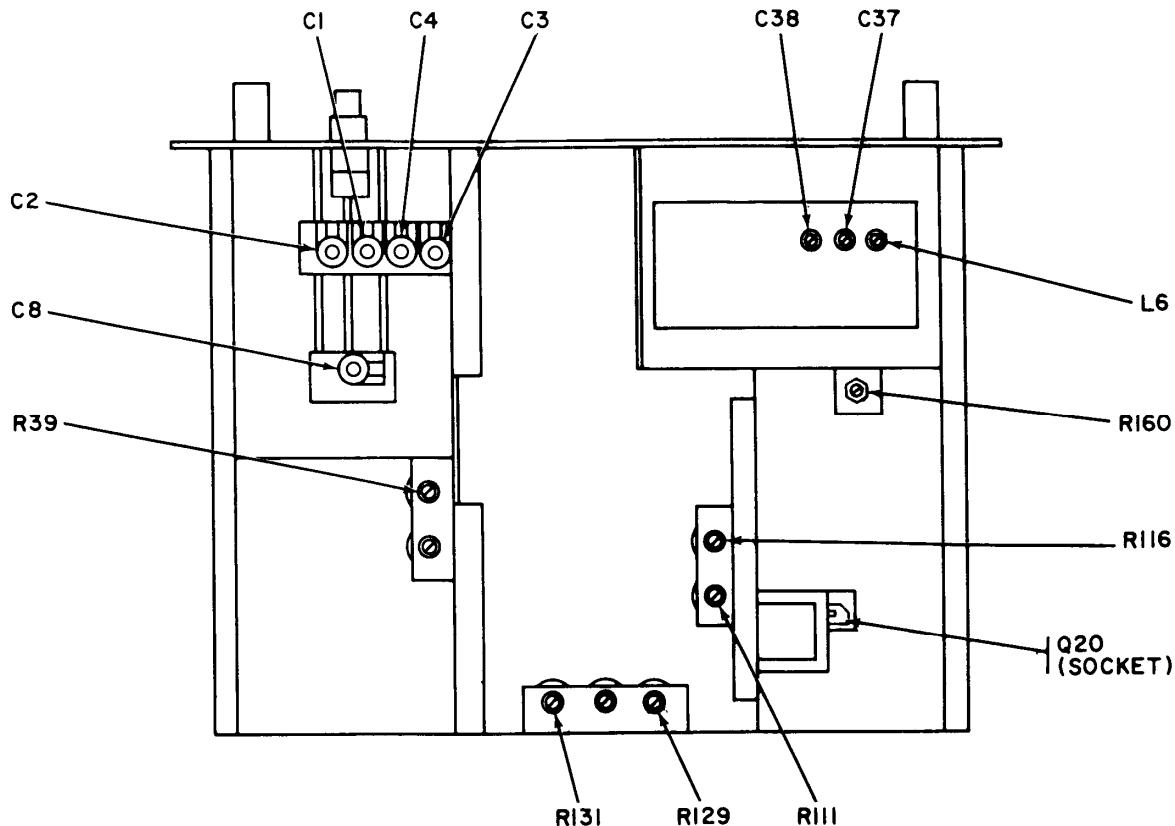
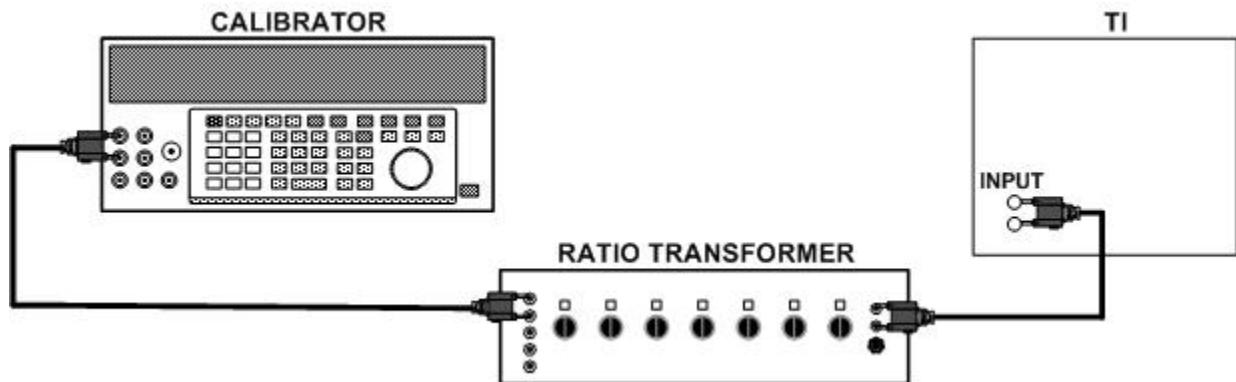

Figure 1. Wave analyzer - adjustment locations.
Figure 2. Calibrator and voltage accuracy - equipment setup.
- (6) Substitute frequency counter with multimeter.
- (7) Vary **FREQUENCY** dial from 20 Hz to 50 kHz. If multimeter does not indicate at least 1 V, perform **b** (3) below.
b. Adjustments (fig. 2)
- (1) Adjust L6 for out-of-tolerance indications on low end of **FREQUENCY** dial (R).
- (2) Adjust C37 (fig.1) and C38 (fig. 1) for overall in-tolerance indication (R).
- (3) Adjust R116 (fig. 1) for an indication of at least 1 V rms on multimeter (R).
- (13) Connect equipment as shown in figure2.
(1) Adjust calibrator for an output of 1.0 Vac.
(2) Set **RANGE (VOLTS)** switch to **METER CAL**.
(3) Adjust **METER CAL** adjustment screw until TI **R.M.S. VOLTS** meter indicates 1.0 to 1.0 scale.
(4) Adjust **FREQUENCY** dial for maximum indication on TI **R.M.S. VOLTS** meter (approx. 4 to 5 kHz).
(5) Adjust R39 (fig. 1) until TI **R.M.S. VOLTS** meter indicates 1.0 on 0 to 1.0 scale (R).
(6) Adjust R111 (fig. 1) until oscilloscope indicates 7 V p-p (R).
- (1) Adjust calibrator output amplitude for indication as established in **a** (5) above.
(2) Adjust C3 (fig. 1) until TI **R.M.S. VOLTS** meter indicates value recorded in **a** (5) above (R).